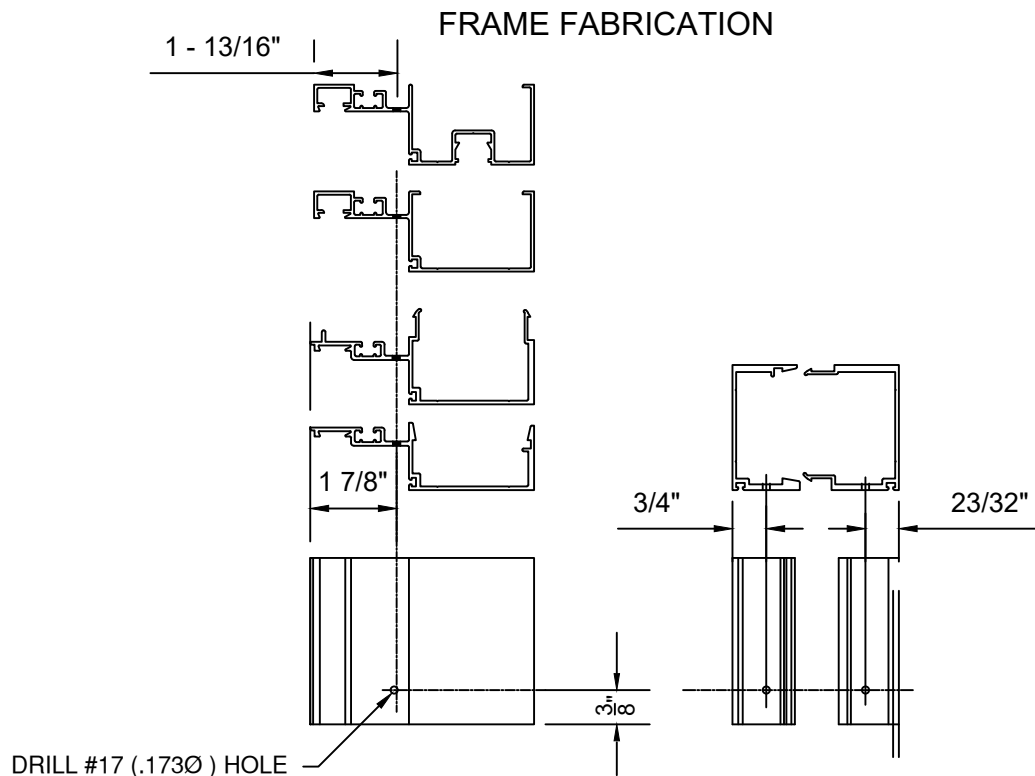

FIGURE 4
- 1.4 Fabricate jamb and vertical mullions for end caps by drilling #17 (.173 dia.) holes at each end as shown in FIGURE 4, page 7.